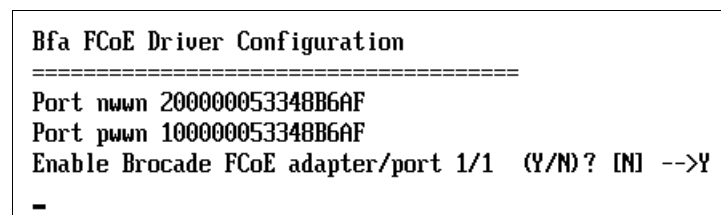

Figure 9-188 WWPNN enabling the port for boot
4. From the Bfa FCoE Driver Configuration panel, note the Port WWPNN, which is your WWPNN and is useful when doing zoning and LUN mapping. Then type Y to enable the Brocade FCoE port, which enables the BIOS function and allows the adapter to boot (Figure 9-188).